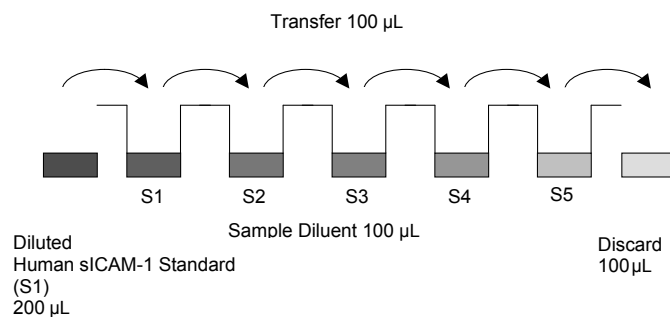

Fig. 1 Dilute standards - microwell plate.
2. Add 100 μL of Sample Diluent in duplicate to standard wells B1/2–E1/2, leaving A1/2 empty. Pipet 200 μL of diluted standard (see “Preparation of standard” on page 2), (concentration of standard 1, S1 = 100 ng/mL) in duplicate into well A1 and A2. Transfer 100 μL to wells B1 and B2. Mix the contents of wells B1 and B2 by repeated aspiration and ejection, and transfer 100 μL to wells C1 and C2, respectively (see Figure 1). Take care not to scratch the surface of the microwells. Continue this procedure 2 times, creating two serially diluted columns of human sICAM-1 standard dilutions ranging from 100 to 6.25 ng/mL . Discard 100 μL from the last microwells (E1, E2). Final volume in all wells is 100 μL .